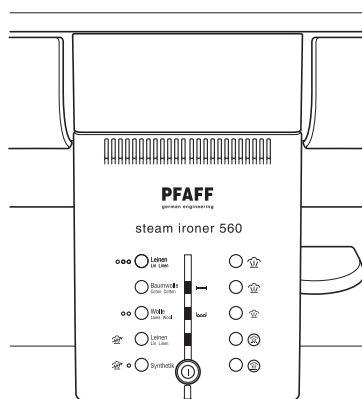

Fig. 1
- The Wrapping Program is now activated and displayed (fig. 1).